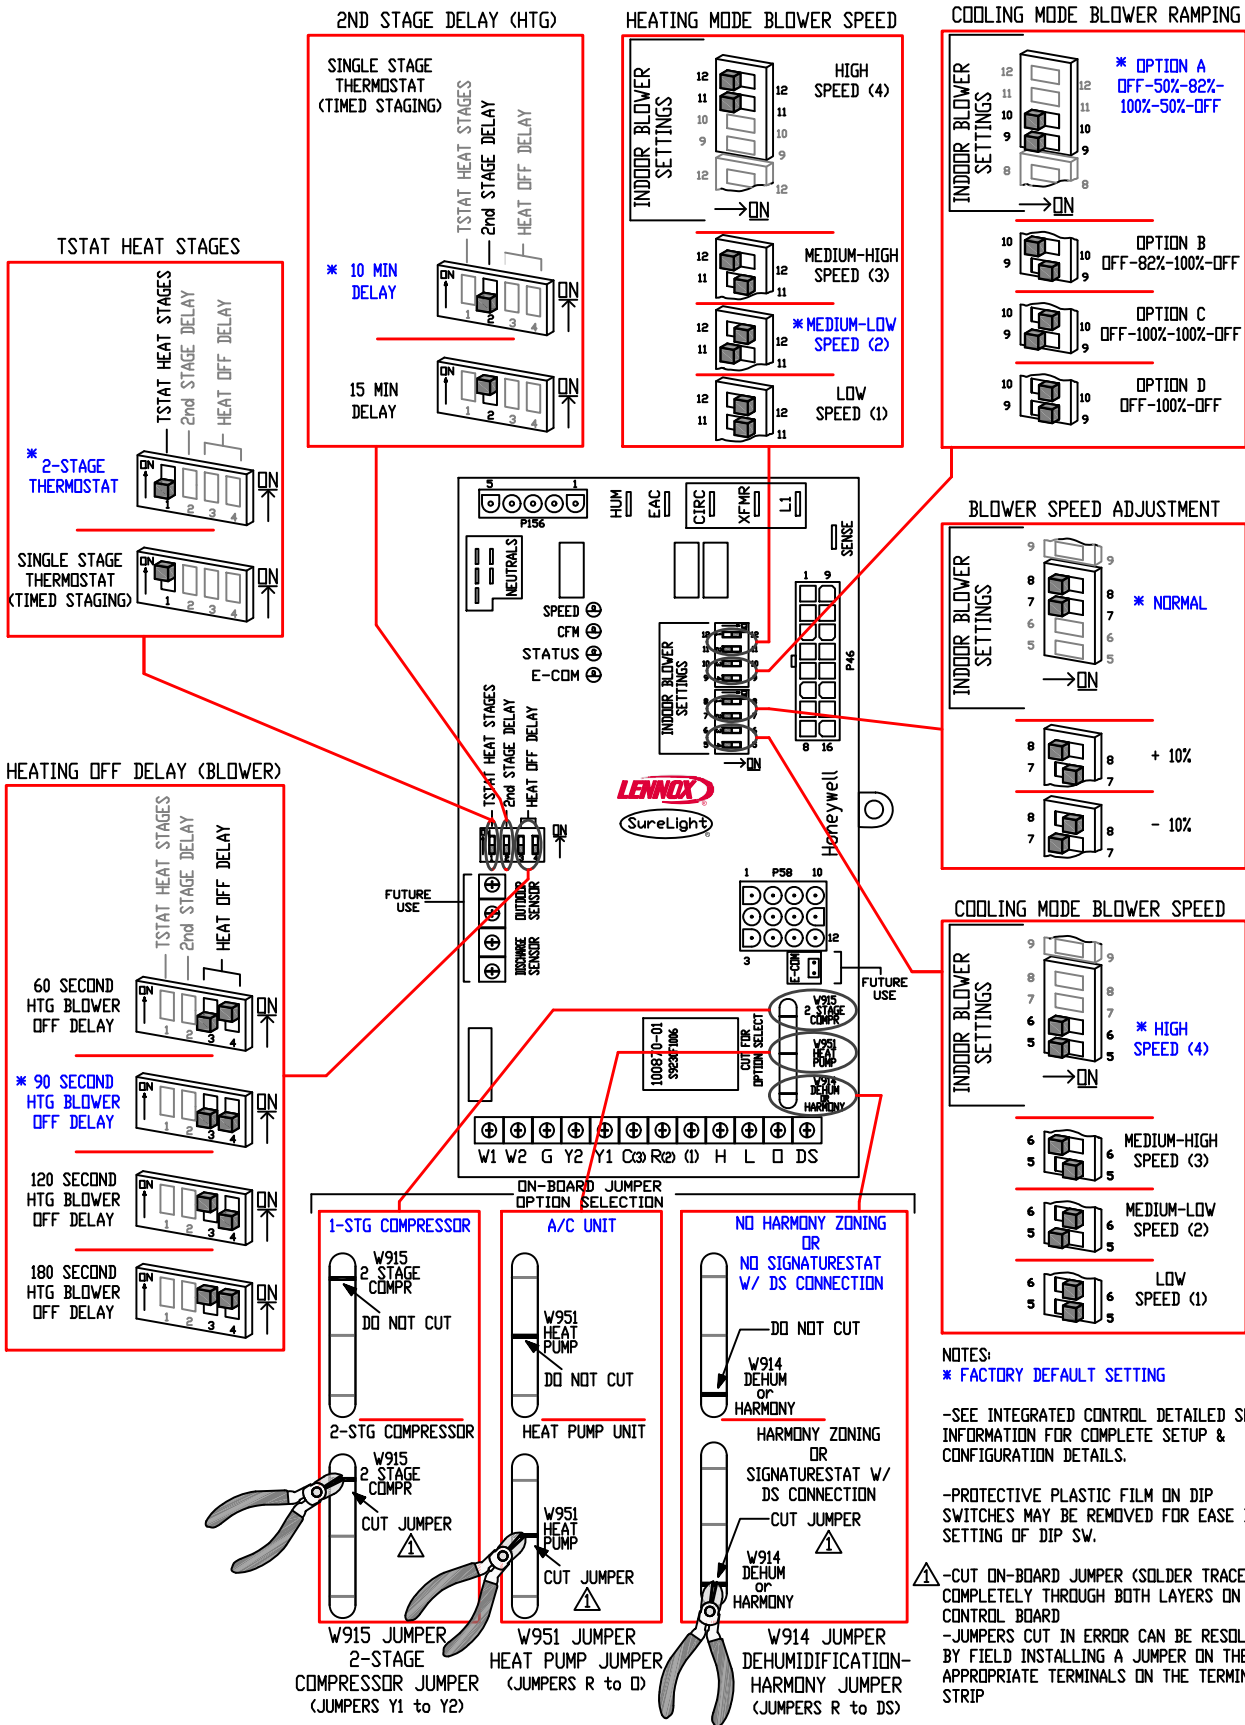

FIGURE 53
### Heating Operation DIP Switch Settings -- Figure 53
### Indoor Blower Operation DIP Switch Settings -- Figure 53
**On-Board Jumper W914 -- Figure 53**
**On-Board Jumper W951 -- Figure 53**
**On-Board Jumper W915 -- Figure 53**